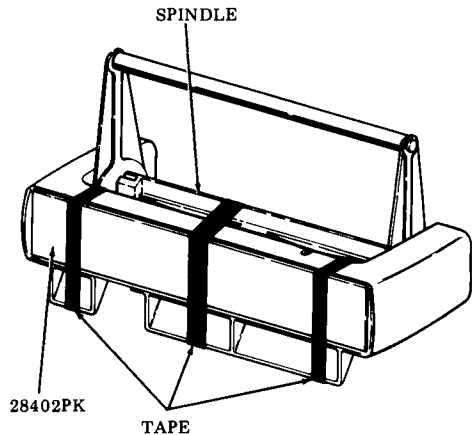

Fig. 16
- 5.08 Place a 28402PK pad over the rear of the paper supply assembly and fasten with two pieces of tape at the outer ends. See Fig. 16.
- 5.09 Secure the paper spindle to the paper supply assembly with a piece of tape. See Fig. 16.